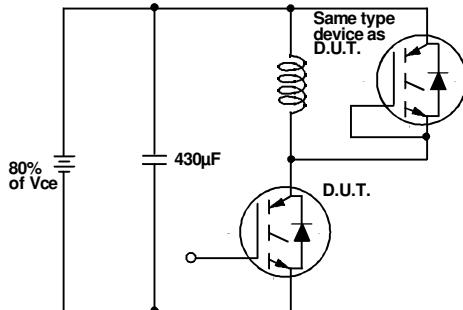

Fig. 18a - Test Circuit for Measurement of I_{LM} , E_{on} , $E_{off(diode)}$, t_{rr} , Q_{rr} , I_{rr} , $I_d(on)$, t_r , $t_d(off)$, t_f
- Fig. 18e - Macro Waveforms for Test Circuit Fig. 18a